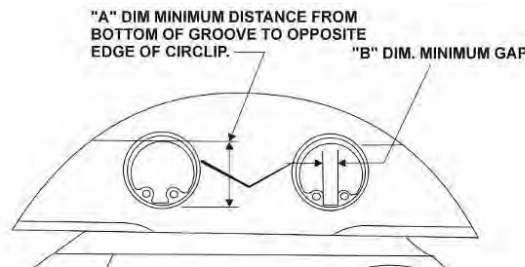

Figure 51
(8) Use the specified Lycoming gage set identified in the latest revision of Service Instruction No. SI-1535. Make sure the circlips are installed correctly on the counterweight (Figure 50). Figure 51 shows the location of the A and B dimensions. Dimension A is the diameter of the gage. Dimension B is the width of the gage.